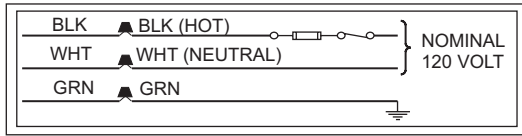

FIGURE 10: Line Wiring Connections
2. Remove the screws retaining the junction box cover. Route the power wiring through the opening in the unit into the junction box with a conduit connector or other proper connection. In the junction box there will be three wires, a Black Wire, a White Wire and a Green Wire. Connect the power supply as shown on the unit wiring label on the inside of the blower compartment door or Figure 10. The black furnace lead must be connected to the L1 (hot) wire from the power supply. The white furnace lead must be connected to neutral. Connect the green furnace lead (equipment ground) to the power supply ground. An alternate wiring method is to use a field provided 2" (5.1 cm) x 4" (10.2 cm) box and cover on the outside of the furnace. Route the furnace leads into the box using a protective bushing where the wires pass through the furnace panel. After making the wiring connections replace the wiring box cover and screws.